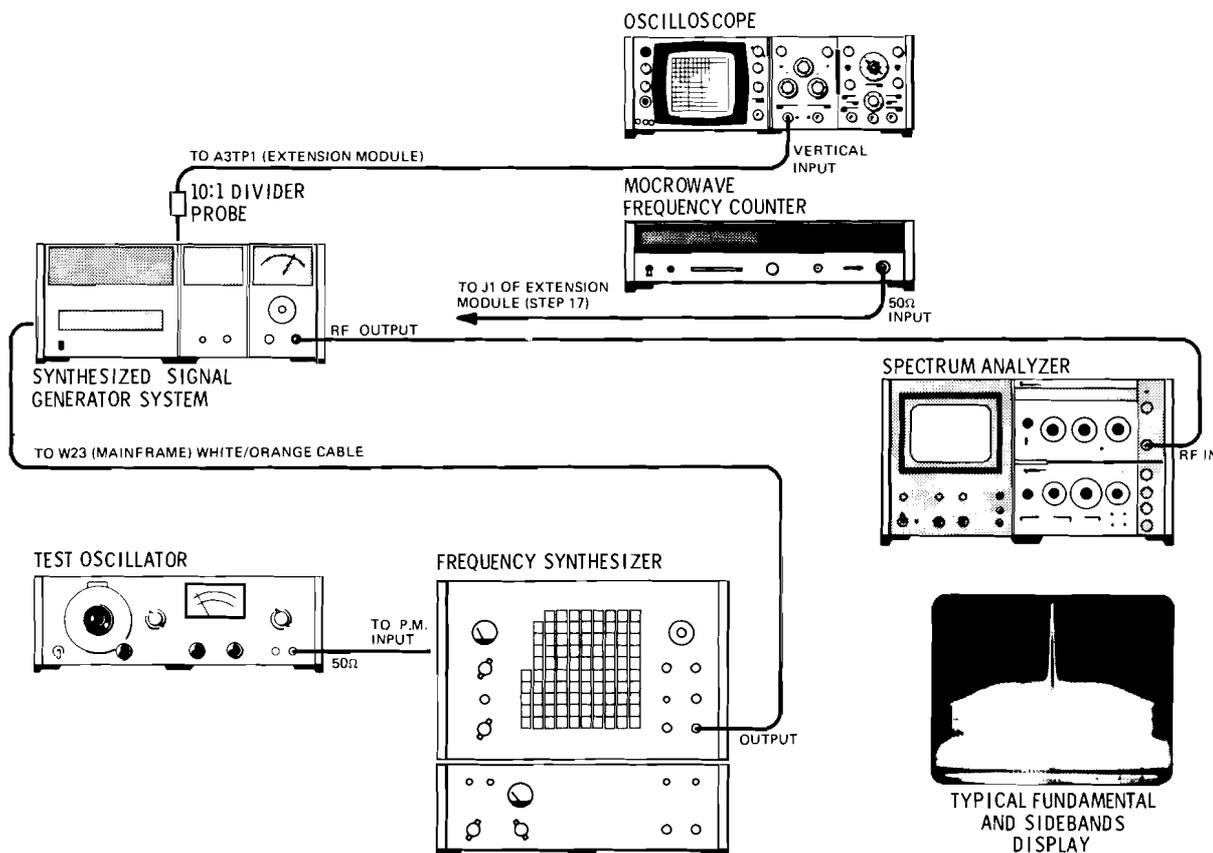

Figure 5-9. Sum Loop Bandwidth Adjustment Test Setup
1. Interconnect equipment as illustrated in Figure 5-9.